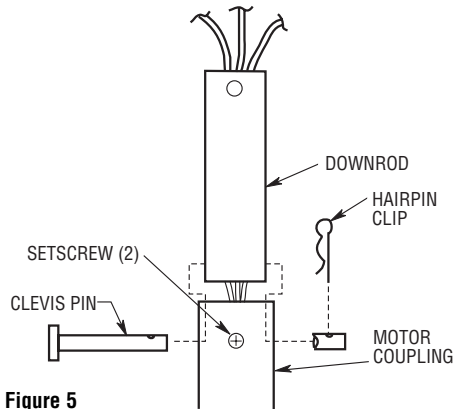

**Figure 4**
- 2. Remove the hanger ball by loosening the setscrew in the hanger ball until the ball falls freely down the downrod (Figure 4). Remove the pin from the downrod, then remove the hanger ball. Retain the pin and hanger ball for reinstallation in Step 7.